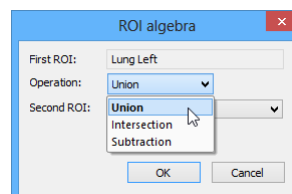

Figure 256 – ROI algebra dialog, defining the algebraic operation
3. Select the algebraic operation in the **Operation** combo box (see Figure 256).